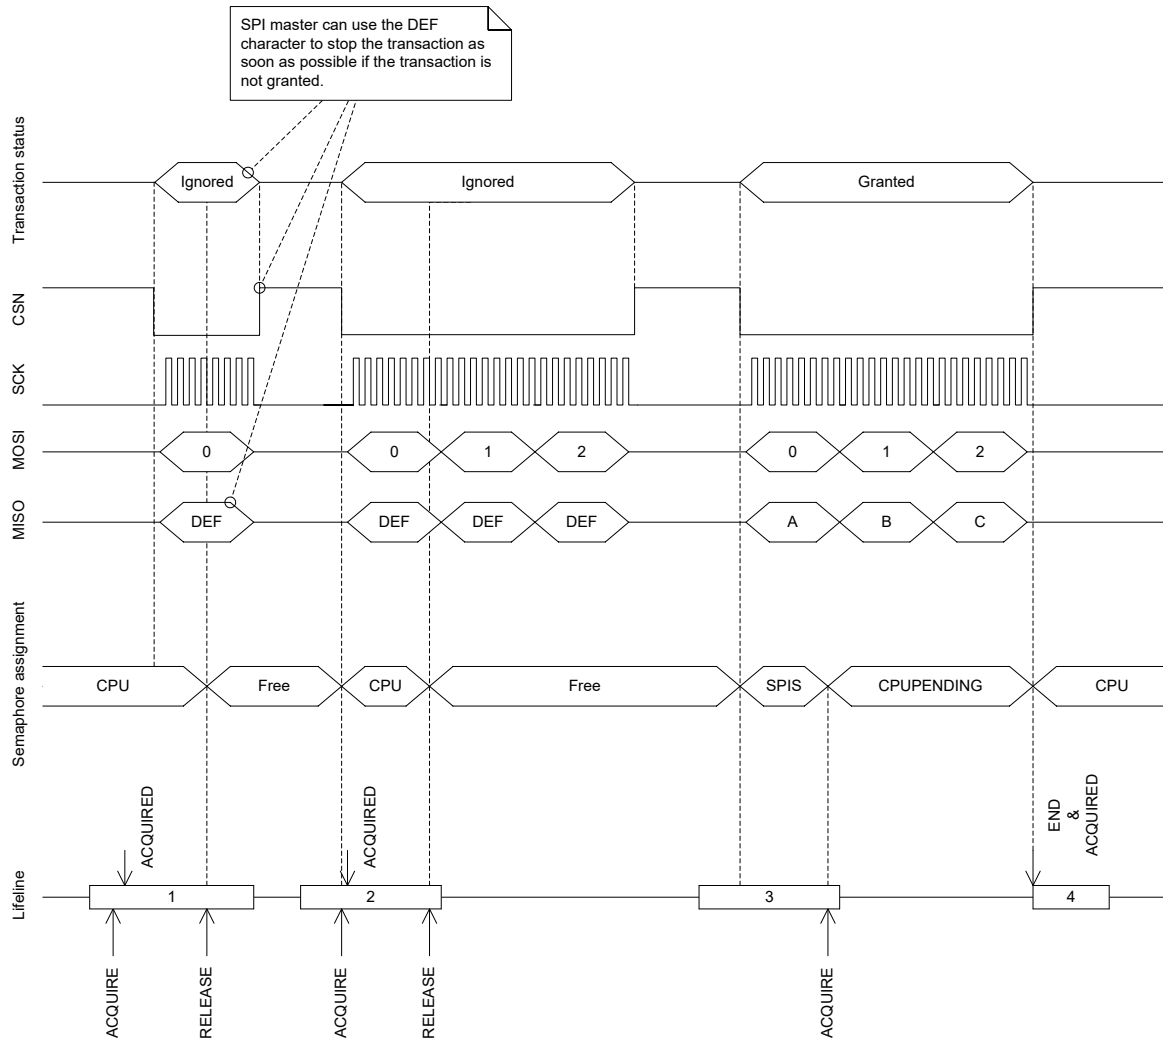

Figure 76: SPI transaction when shortcut between END and ACQUIRE is enabled
See Figure 76: SPI transaction when shortcut between END and ACQUIRE is enabled on page 298.
Before the CPU can safely update the RXD.PTR and TXD.PTR pointers it must first acquire the SPI semaphore. The CPU can acquire the semaphore by triggering the ACQUIRE task and then receiving the ACQUIRED event. When the CPU has updated the RXD.PTR and TXD.PTR pointers the CPU must release the semaphore before the SPI slave will be able to acquire it. The CPU releases the semaphore by triggering the RELEASE task. This is illustrated in Figure 76: SPI transaction when shortcut between END and ACQUIRE is enabled on page 298. Triggering the RELEASE task when the semaphore is not granted to the CPU will have no effect.
The SPI slave will try to acquire the semaphore when CSN goes low. If the SPI slave does not manage to acquire the semaphore at this point, the transaction will be ignored. This means that all incoming data on MOSI will be discarded, and the DEF (default) character will be clocked out on the MISO line throughout the whole transaction. This will also be the case even if the semaphore is released by the CPU during the transaction. In case of a race condition where the CPU and the SPI slave try to acquire the semaphore at the same time, as illustrated in lifeline item 2 in Figure 76: SPI transaction when shortcut between END and ACQUIRE is enabled on page 298, the semaphore will be granted to the CPU.